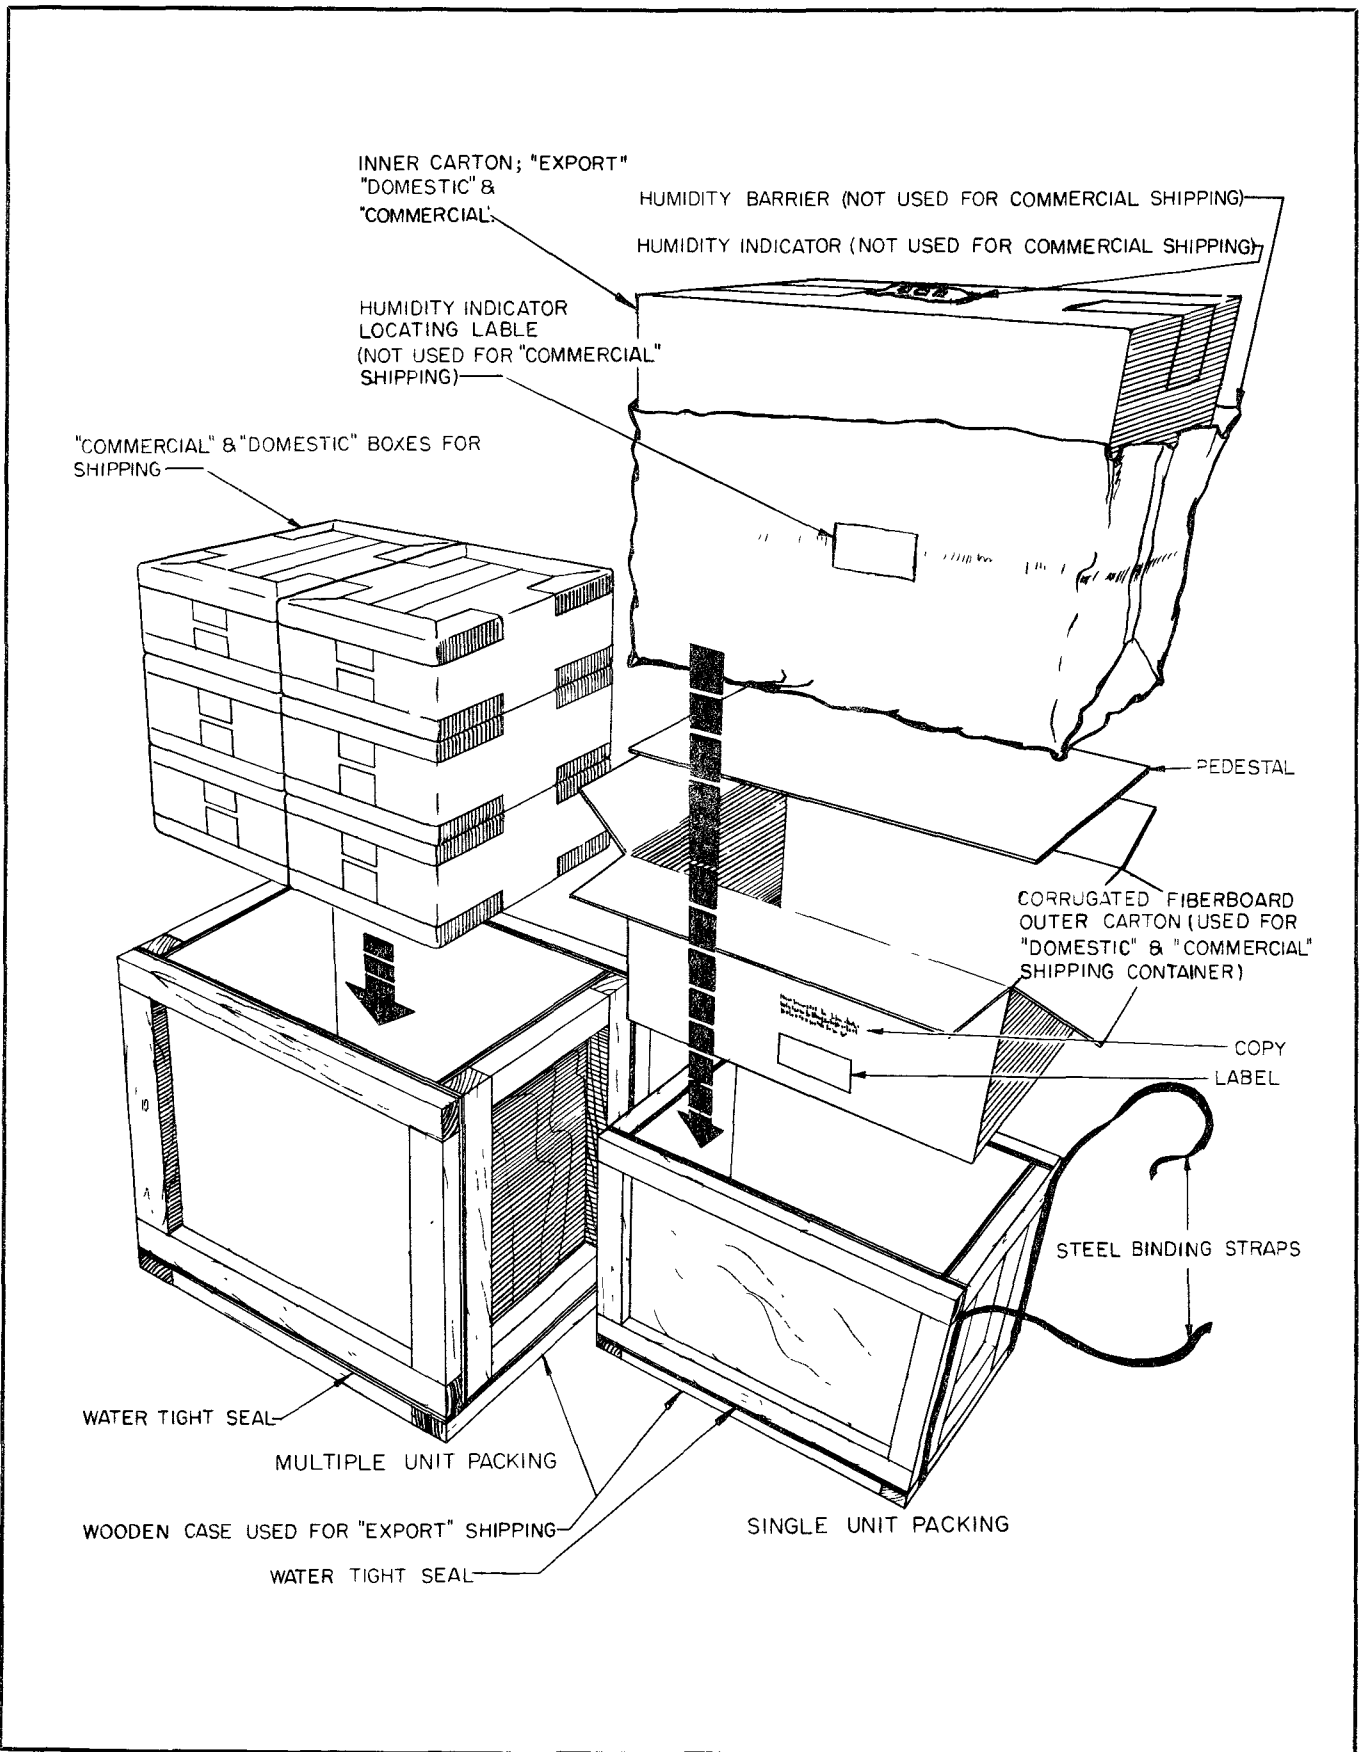
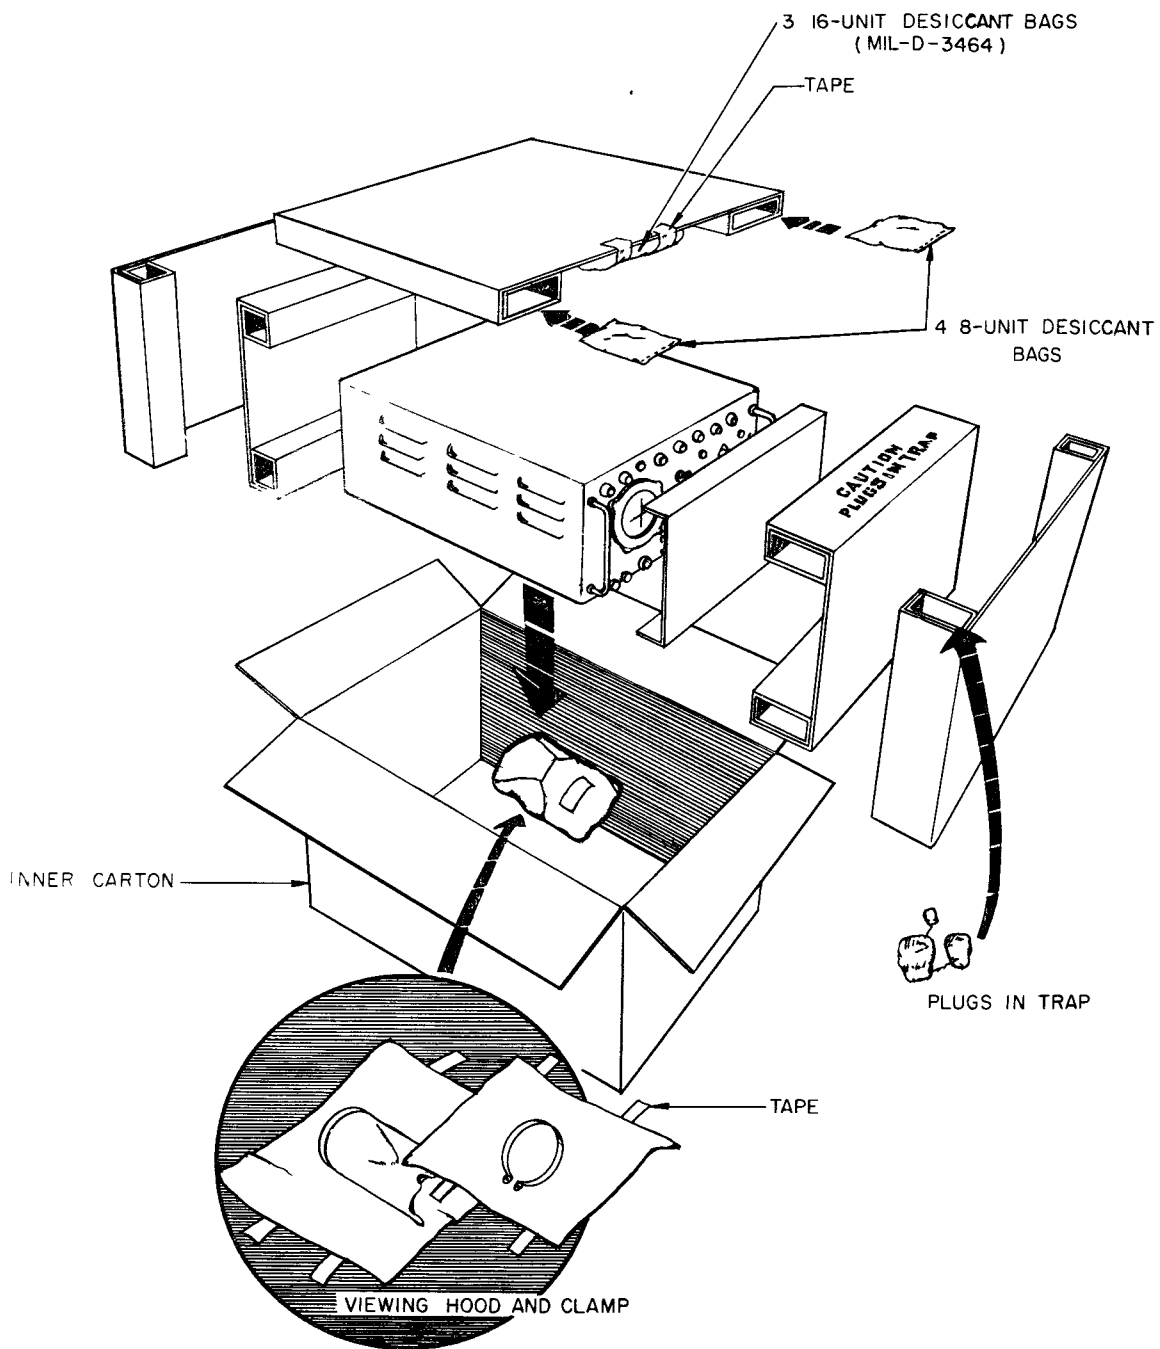

Figure 3-1. Shipping Containers (Typical)
Figure 3-2. Packaging of Azimuth Indicator IP-243/ALA-6
3-3. EXPORT PACKAGING AND PACKING. A wood box is used as the shipping container for export shipments. Typical examples are shown in figure 3-1. This box is lined with a waterproof paper and sealed water-tight when closed. Inside the shipping box is packed one package of equipment (except for the Antenna Control C-1246/ALA-6, which is generally packed six packages to the wooden shipping box). The units of the equipment are packaged in double fiberboard cartons with a waterproof, vaporproof barrier between the inner carton and the outer carton. With the equipment inside the inner carton are placed bags of a desiccant, which absorbs moisture and keeps the equipment dry inside the vaporproof barrier. Various corrugated fiberboard fillers, trays, plates, etc., and wooden cradles are used to fit the particular unit into the inner carton and protect from damage, as illustrated in figures 3-2 through 3-6.
3-4. DOMESTIC PACKAGING AND PACKING. Equipment for domestic shipment is packaged the same as for export, but is not packed in a wood shipping container. The outer carton of the double-carton package serves as the shipping container. See figure 3-1. The vaporproof barrier, humidity indicator, and desiccant are included and the other details of each package are the same. See figures 3-2 through 3-6.
3-5. COMMERCIAL PACKAGING AND PACKING. Equipment for commercial shipment is packaged and packed in the same manner as equipment intended for domestic shipment except that no vaporproof barrier, humidity indicator, or desiccant is included. The details inside each package are illustrated in figures 3-2 through 3-6, except that the desiccant is omitted. An outer fiberboard carton is used as the shipping container without a barrier or humidity indicator; see figure 3-1.
- Step 5. Open the inner carton and remove the contents. See figures 3-2 through 3-6 for details. Remove all packaging materials. Dismount items from wood cradles by removing the mounting bolts.